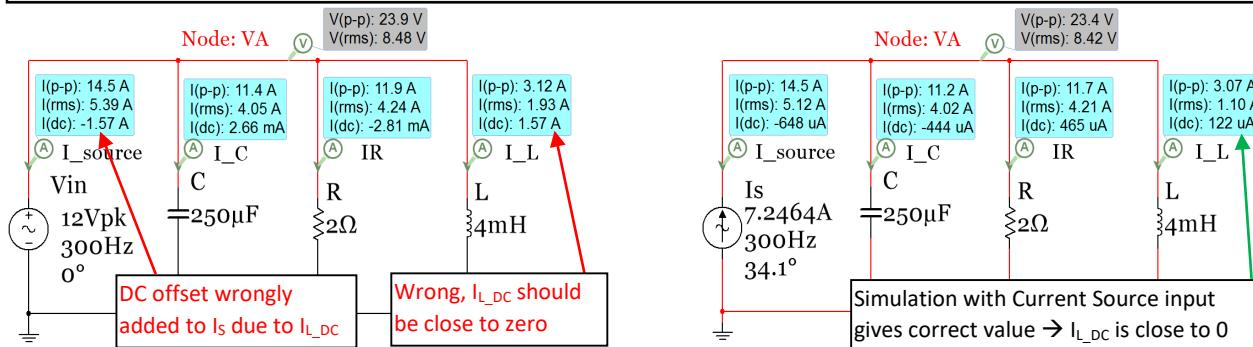
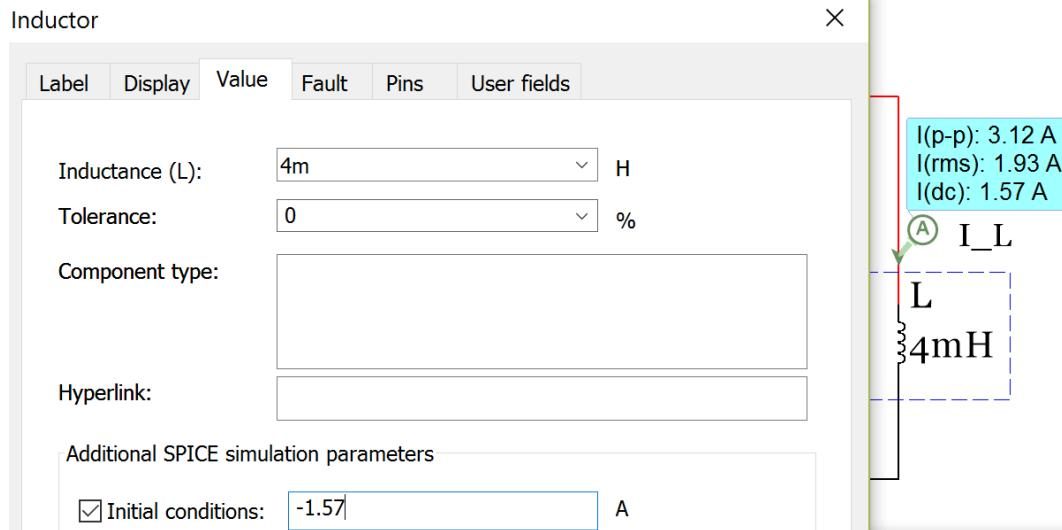

Figure 3.14: Parallel circuit in Example 3.7 with AC Voltage source (Left) and AC Current Source (Right).
Figure 3.15: Inductor dialogue box to enter the DC offset as the initial condition.
The reason the RMS I_s and I_L don't match the calculations is due to the DC offset that is wrongly included in the simulation as shown in Figure 3.14 (this link gives more info). Here are some options to avoid this error.
- Calculate I_s and use a current source instead of a voltage source. There is no DC offset in Figure 3.14.
All of the voltages and currents have been calculated above and the magnitudes were verified in Multisim. To verify the phase the oscilloscope is needed. To remove the DC offset of the inductor, method 3 described in Figure 3.14 will be used. Figure 3.15 shows the dialog that comes up when you double click on the inductor. Since the DC offset was measured to be 1.57A, a value of -1.57A is entered into the initial condition box to correct for the DC offset. Figure 3.16 (Left) shows the plot of V_{in} and I_s for the initial circuit without modifying the initial condition of the inductor. Due to the DC offset the peak value of I_s is measured to be 8.738 A which is about 1.5 A higher than the calculated value of I_{s_pk} (7.2464 A). In the right plot of Figure 3.16 the initial condition of the inductor is included and the DC offset is removed from both I_L and I_s .